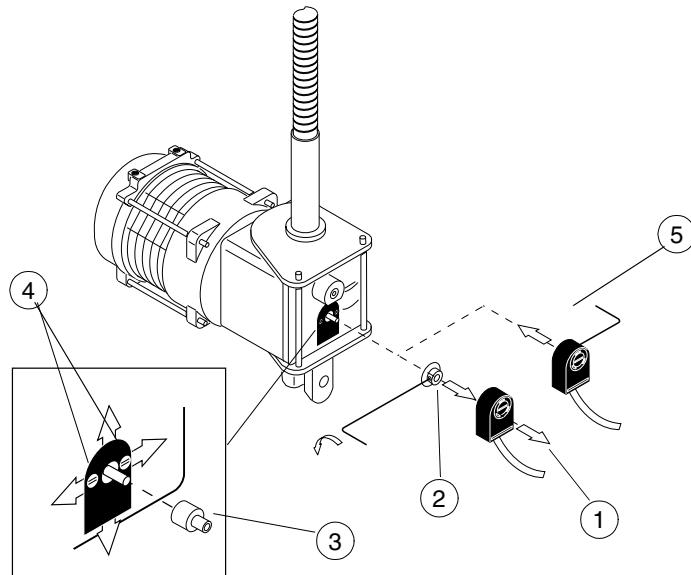

Figure H.27
- c) Pull the old sensor from the motor (Fig. H.27, 1). The base of the sensor and the pulse disk will remain on the motor. Remove the old pulse disk (Fig. H.27, 2).
- d) If the sensor base moved when the sensor was removed, check its position with a special tool (Fig. H.27, 3). Tighten the screws of the sensor base if needed (Fig. H.27, 4).
- e) Install the new sensor to the sensor base (Fig. H.27, 5). Fasten the sensor assembly with the Allen key which is in the new sensor. Check the sensor operation.